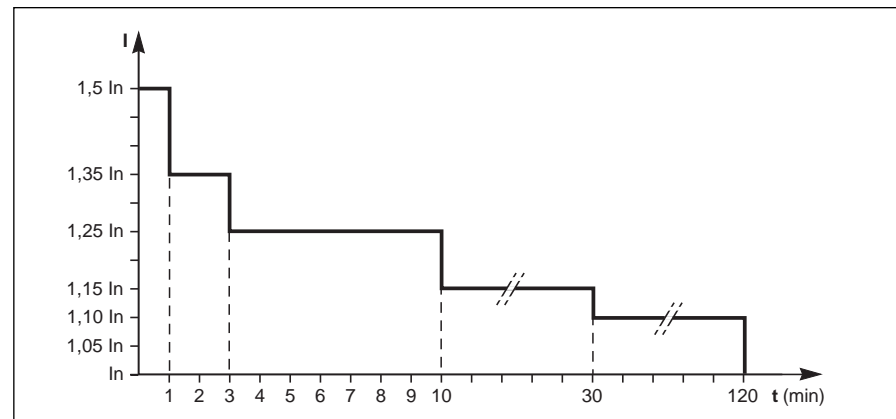

Fig. 10
■ in the event of a small but extended overload (i.e. a continuous level of power exceeding the full rated load), the inverter will continue to supply power for a period depending on the magnitude of the overload (10 minutes for a 125% overload, 1 minute for a 150% overload). See the overload curve in figure 10;